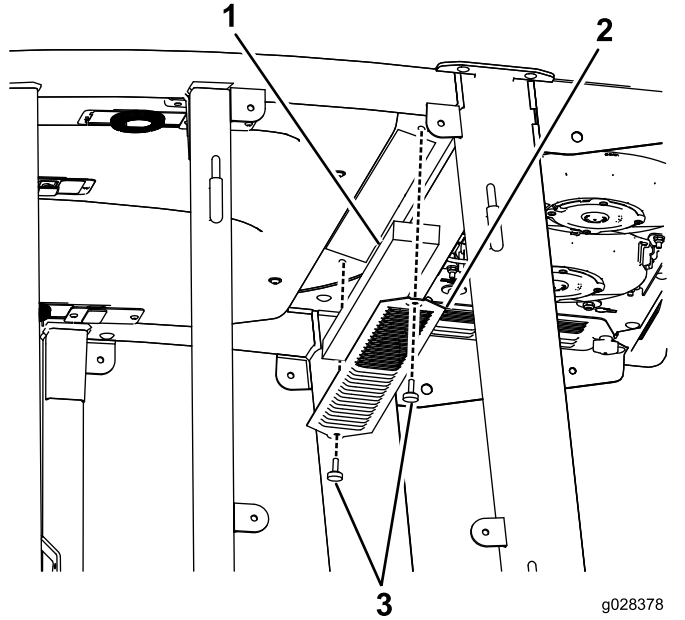

Figure 120
1. Remove the screws and grates from over both the in-cab and rear cab-air filters (Figure 120).